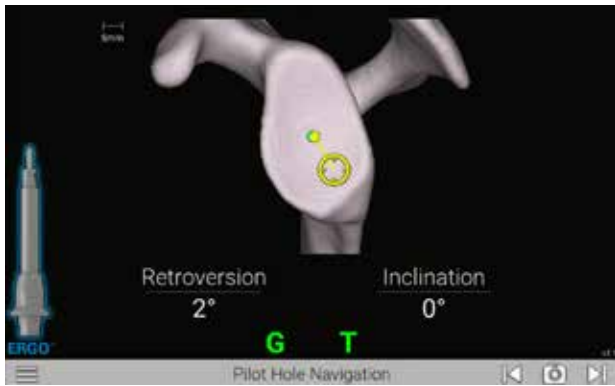

Figure 94a
Follow the on-screen guidance to place the components according to the plan (Figures 94a and 94b). Both the pilot hole and k-wire insertion screens are guided in a similar fashion with real-time feedback on the position of the Driver and K-wire Guide.
-  For positioning of the Drill, the tip of the Drill is indicated by a yellow dot (Figures 94a and 94b).
-  The planned position is indicated by a blue dot (Figure 94a).